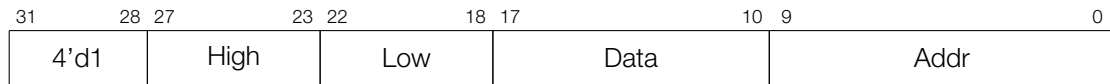

Figure 30-18. Instruction Type – REG\_WR
**Operand**    **Description** - see Figure 30-18